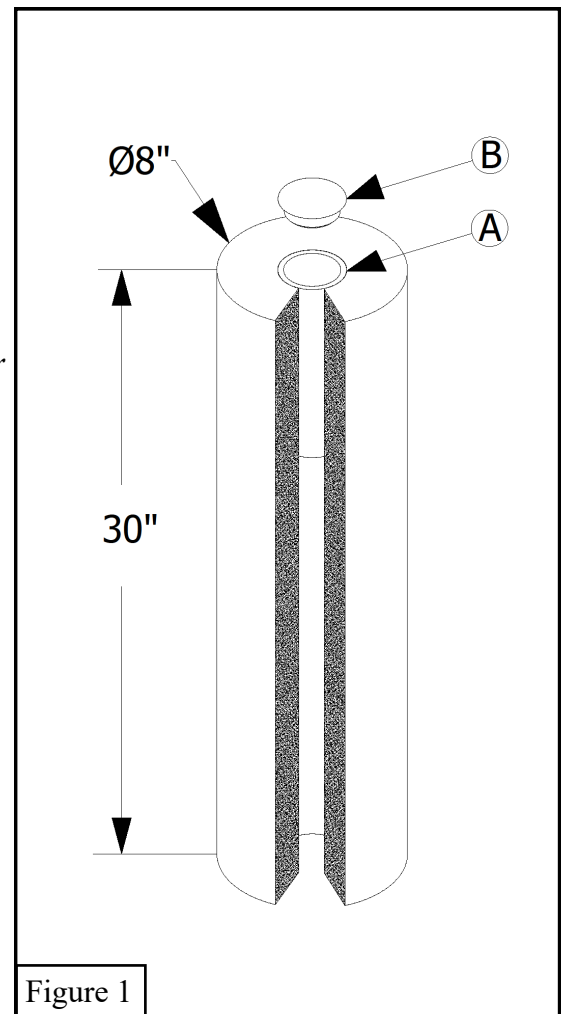

Figure 1
1. Dig an 8" diameter X 30" deep hole. See Figure 1.
2. Mix 60# Bag Pre-Mix Concrete (C) to a wet consistency and fill hole within approximately 6" of top of hole.
3. Insert *PVC Socket Assembly (TB100GS, 1 7/8") or (TB200GS, 2 3/8")* (A) into the center of the wet concrete and carefully fill remaining void to top of *PVC Socket Assembly (TB100GS, 1 7/8") or (TB200GS, 2 3/8")* (A). Use the tetherball pole (packaged separately) and a level to ensure that the *PVC Socket Assembly (TB100GS, 1 7/8") or (TB200GS, 2 3/8")* (A) is plumb. Take care to make sure the *PVC Socket Assembly (TB100GS, 1 7/8") or (TB200GS, 2 3/8")* (A) doesn't shift or rise while concrete is curing.
5. When concrete is cured, insert the *Socket Plug (B)* in the top of the *PVC Socket Assembly (TB100GS, 1 7/8") or (TB200GS, 2 3/8")* (A) when tetherball pole is not in use to keep debris out of the *PVC Socket Assembly (TB100GS, 1 7/8") or (TB200GS, 2 3/8")* (A). See Figure 1.